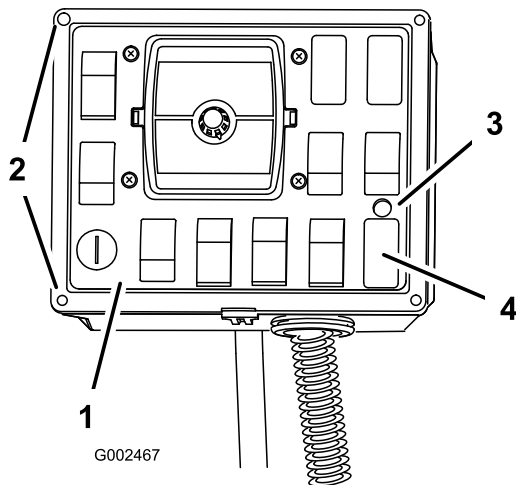

Figure 18
2. In the area just above the sonic boom switch plug, drill a 0.375 inch diameter hole to accommodate the indicator light (Figure 18).
8. Install the front control panel cover to the control box using the fasteners removed previously (Figure 18).